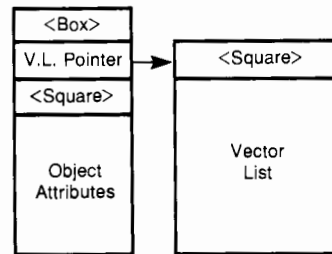

Figure 4-4. Storing Vector Lists in Vector Memory
- If object attributes exist in the picture file which contained references to a vector list which did not formerly exist, they will be assigned to this vector list after it is created. (i.e., If a set of object attributes "box" had been created with a reference to the vector list "square" (which did not formerly exist), the vector list pointer in "box" would now point to "square". See figure 4-4.)